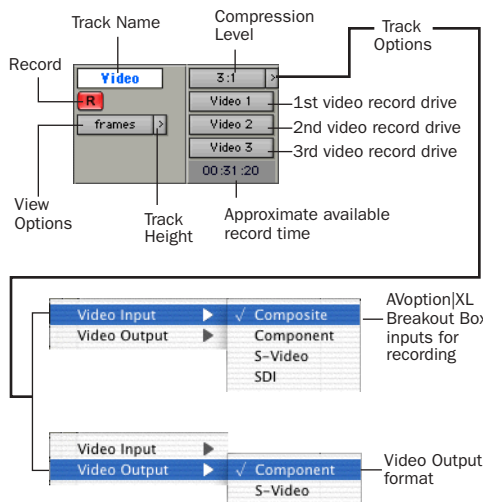

Figure 3. Movie track controls
- 2 Select video record drives from the three Avid Video Drives pop-up menus (see Figure 3).
- 3 Select a compression ratio from the Compression Level pop-up menu (see Figure 3).
- 1 On the Movie track, click the Track Options pop-up menu (see Figure 3 on page 23).